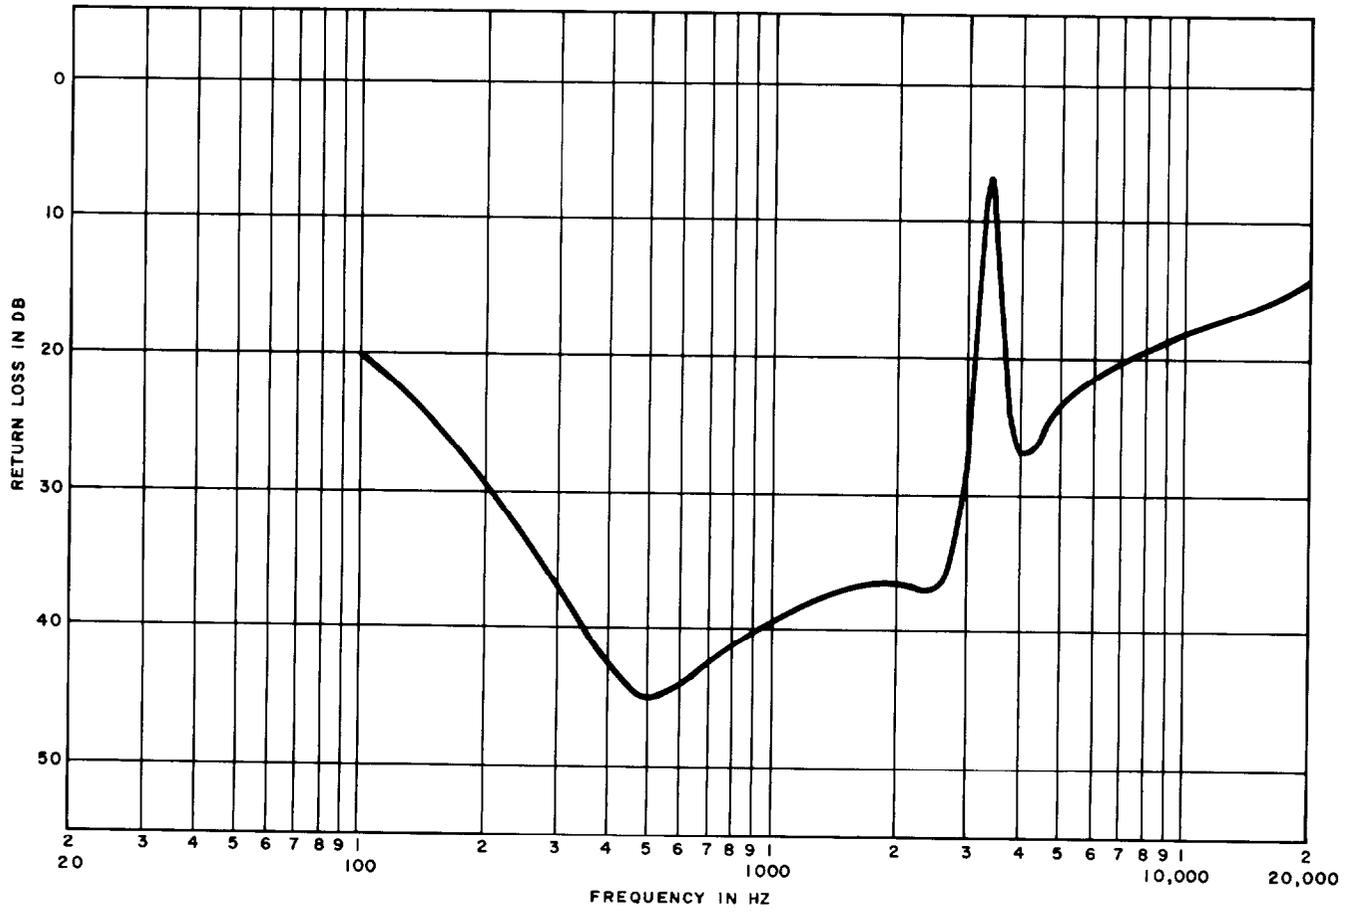
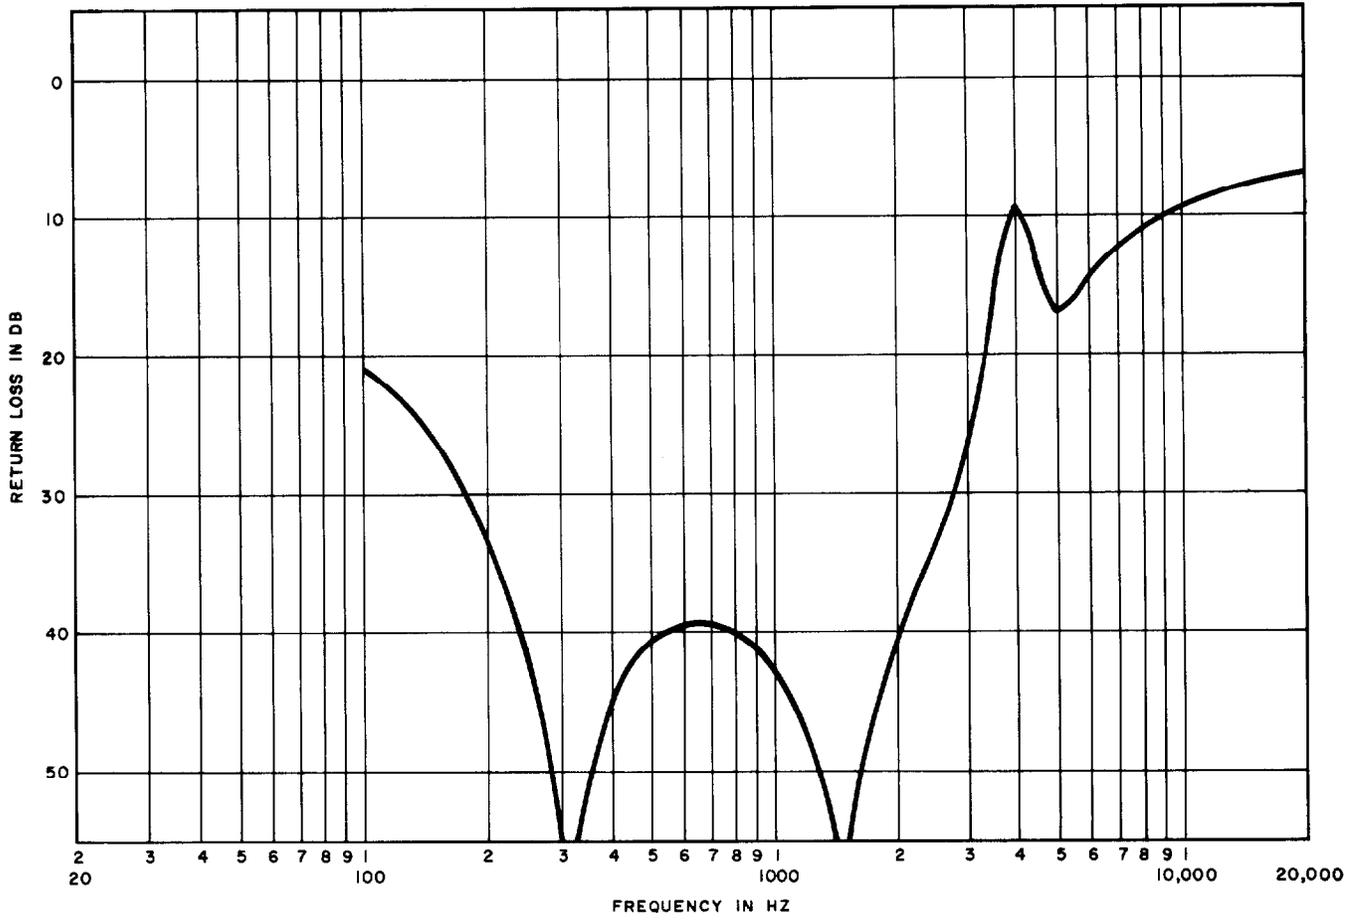
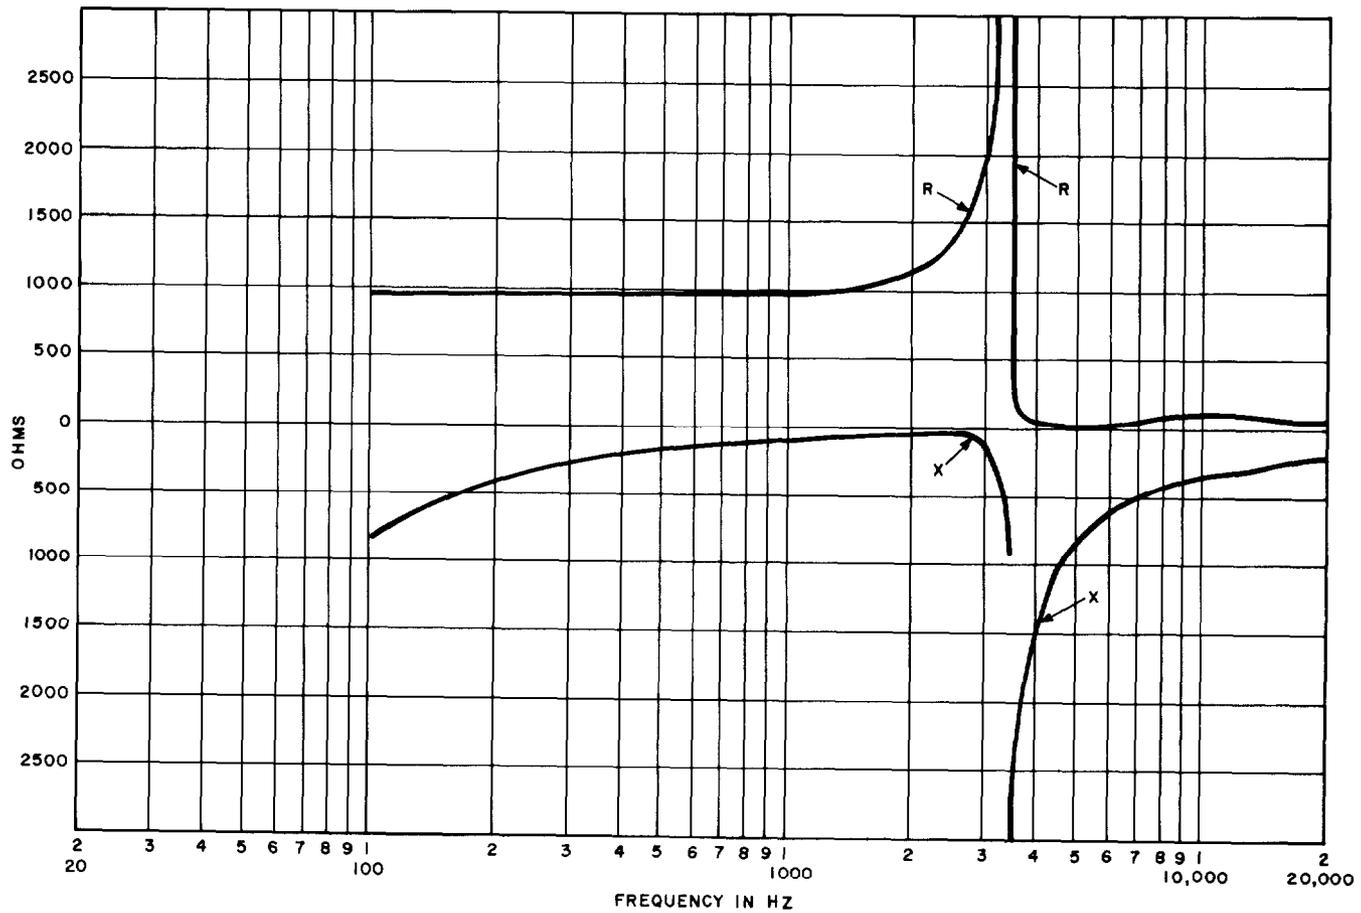

Fig. 3—4066A Network—Return Loss vs 19H88 High-Capacitance Cable—End Section = 0.5 Loading Section
Fig. 6—4066A Network—Return Loss vs 19H88 High-Capacitance Cable—End Section = 0.25 Loading Section
Fig. 10—4066A Network—Simulating Midsection Impedance of 19H88 High-Capacitance Cable
3.04 Figures 3 through 13 are graphic illustrations of return loss and impedance characteristics of the 4066A network. Figures 3, 4, and 5 illustrate typical return losses of the network against the midsection impedance of the cable facilities involved. Figures 6 through 9 show the return losses for end sections other than 0.5 loading section. The midsection impedance characteristics of the network are illustrated in Fig. 10, 11, 12, and 13. The R designations on these figures indicate the resistive components of the impedance, and the X designations indicate the reactive components.